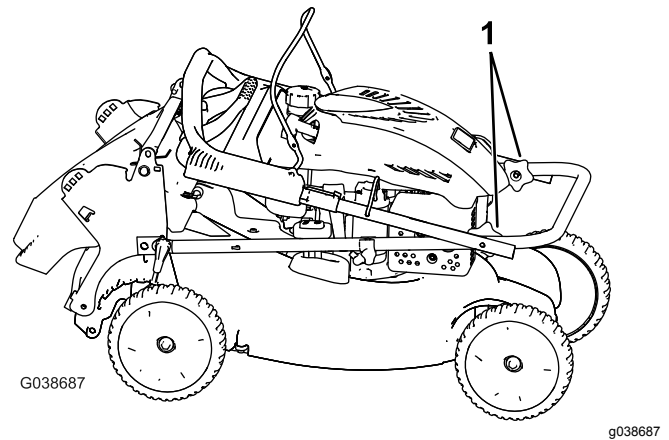

Figure 23
4. Rotate the upper portion of the handle back toward the engine; refer to Figure 23.